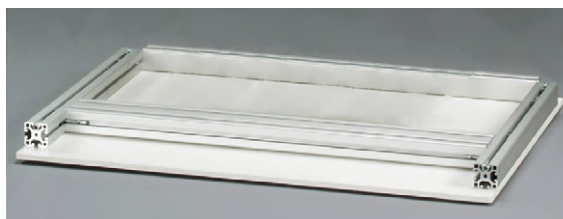

Fig. 4—Turn the table upside down.
1. The table that supports this working heart system is delivered in pieces with the legs, cross beams, shelf and table top packed separately. Carefully remove the wrapping from the components. Keep the foam pad in the stainless steel tray on top of the table to prevent damaging the edges of the table. The table top is designed to collect any fluids that might drip from the system. Lay the table top face down on a work table or the floor (Fig. 4).